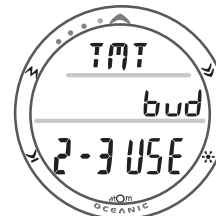

Fig. 112 - TMT 2-3 USE
- Press and hold the M button for 2 seconds while viewing a NORM DIVE MAIN screen to access the TMT 2-3 USE screen displaying the Set Point bud (Fig. 112). If SELF is displayed, indicating that the ATOM is set for FO2 GAS Switching, a Buddy Pressure Check cannot be performed.